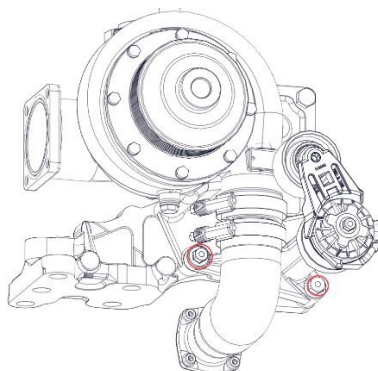

Figure 162-3
7. Figure 162-2. Remove the last two bottom front bolts from the water pump assembly (Figure 162-3).